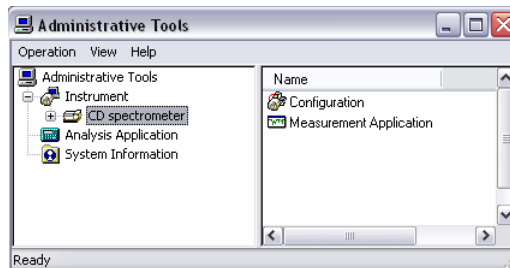

Figure. 2.25 Opening [Properties...]
- (1) Select [Operation]-[Properties...] after confirming the name of the spectrometer (see Fig. 2.25).
The accessory is registered and it returns to the [Administrative Tools] window (see Fig. 2.25). If the <Cancel> button is clicked, no changes are effected.